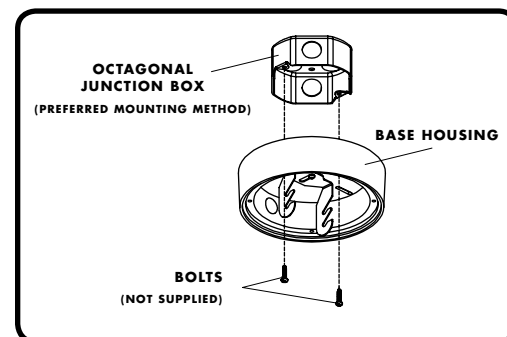

FIGURE 3
- Use appropriate bolts (not supplied) to mount base housing to octagonal junction box [FIGURE 3].